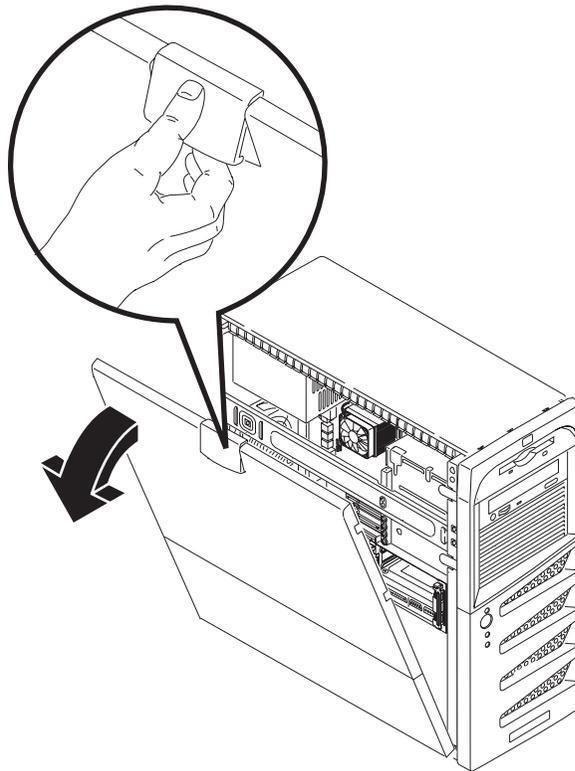

Figure 3-1. Removing the Left Side Cover
2. Pull outward on the latch, grasp the edges of the cover and lift the cover upward to remove it. See *Figure 3-1*.